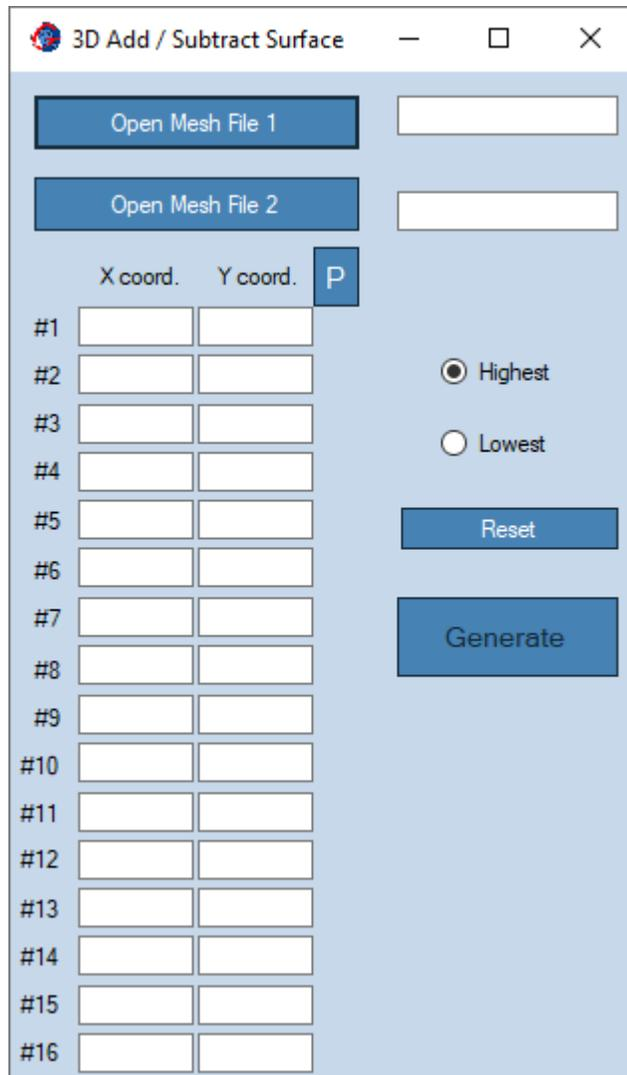

Figure 32: 3D Surfaces Menu – Add / Subtract
- **Meshing Menu, Add / Subtract Mesh:** This menu option (shown in Figure 32) operates an Addition or Subtraction between two 3D surfaces.